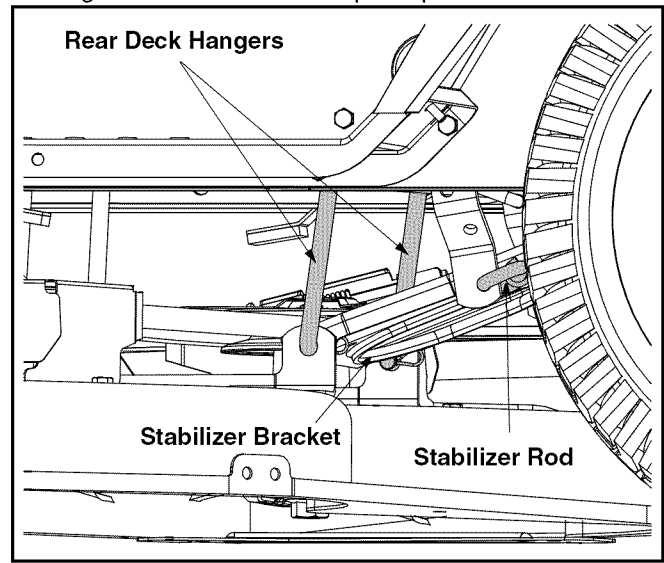

Figure 29
- Remove the hairpin clips which secure the rear deck hangers to the deck stabilizer bracket. See Figure 29. Retain the hairpin clips.
NOTE: For normal service and maintenance, the deck stabilizer bracket doesn't need to be removed from the tractor. If removing the cutting deck in order to mount a Snow Thrower attachment, however, the stabilizer bracket must be removed. To do so, simply remove the hairpin clip which secures the stabilizer rod to the stabilizer bracket. See Figure 29.